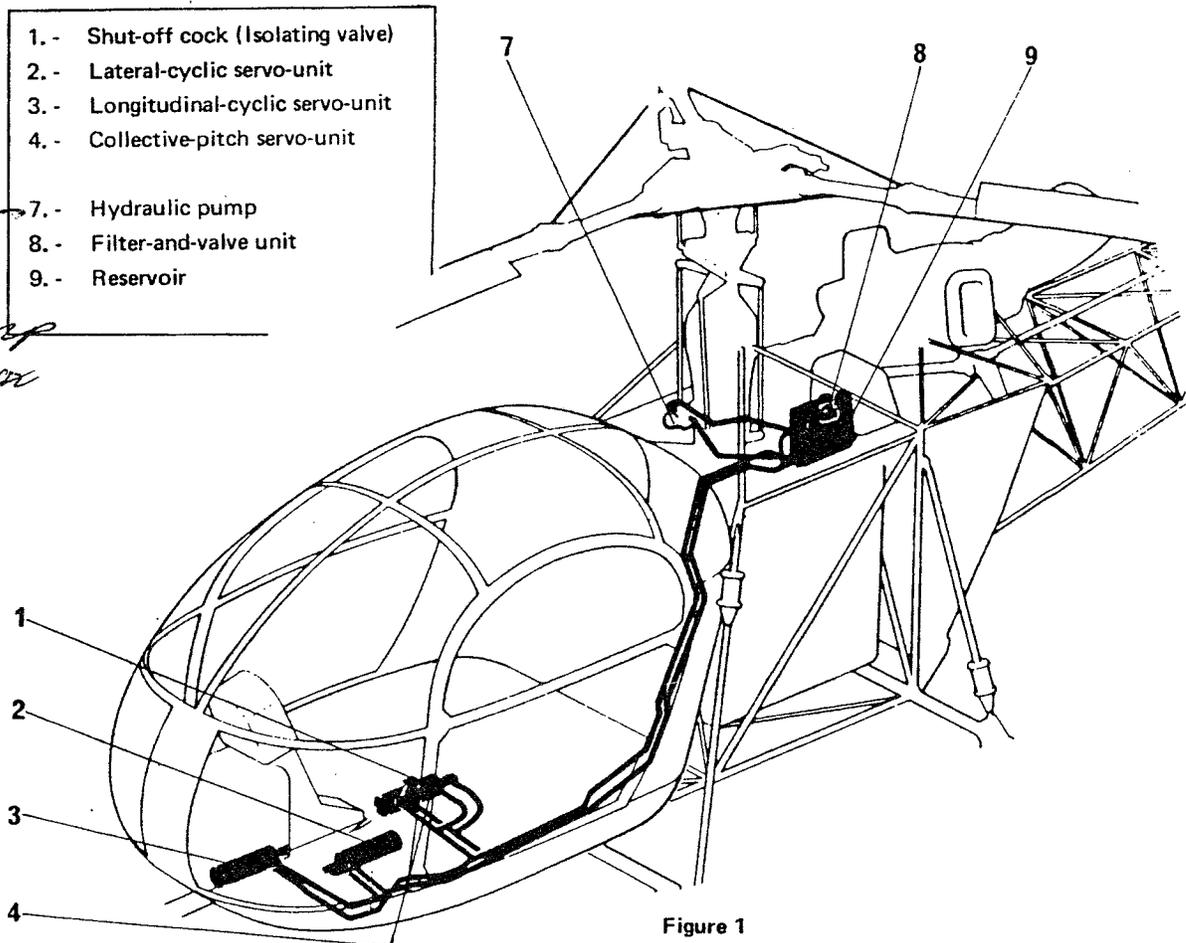

Figure 1
7.00. - GENERAL (Figure 1)
7.10.1.- GENERAL OPERATION OF THE HYDRAULIC SYSTEM (Figure 1)